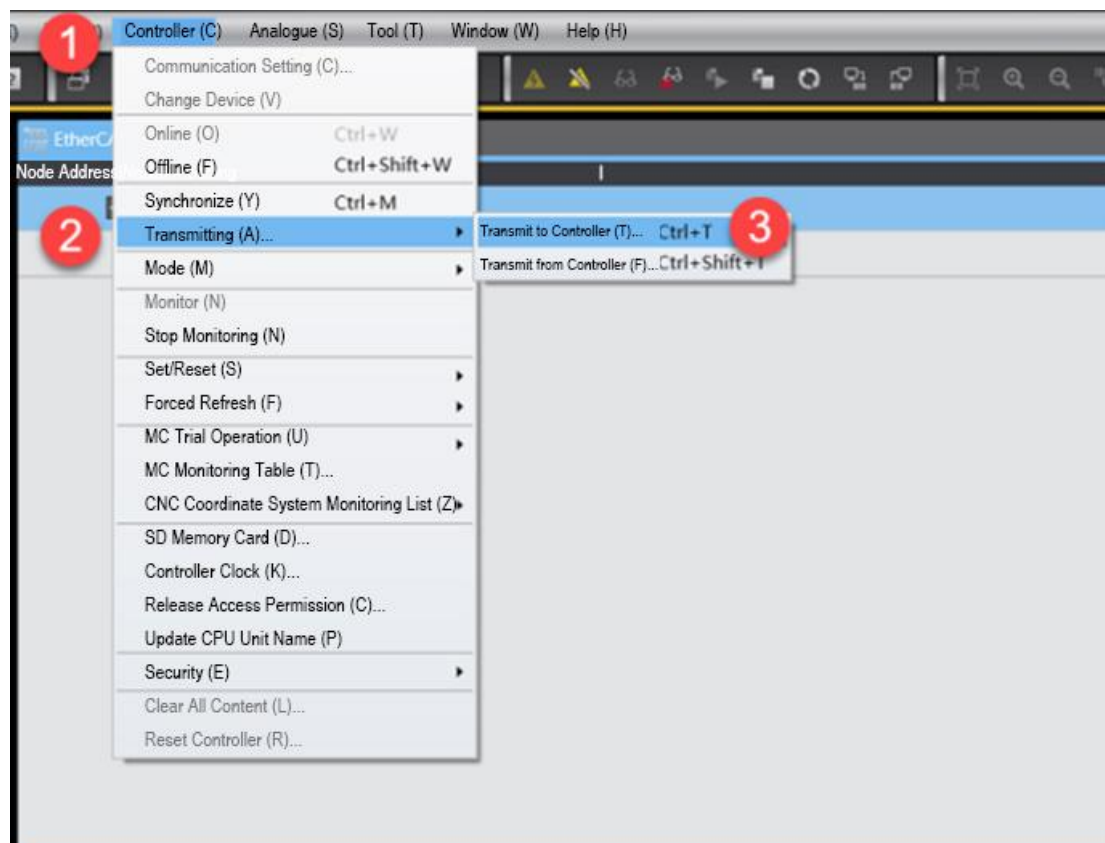

Figure 5-1-34 Program download
After the device is restarted, download the program to the controller. Choose Controller > Transferring > Transfer to Controller (T) from the menu bar, as shown in Figure 5-32. Then download the program, as shown in Figure 5-1-34.